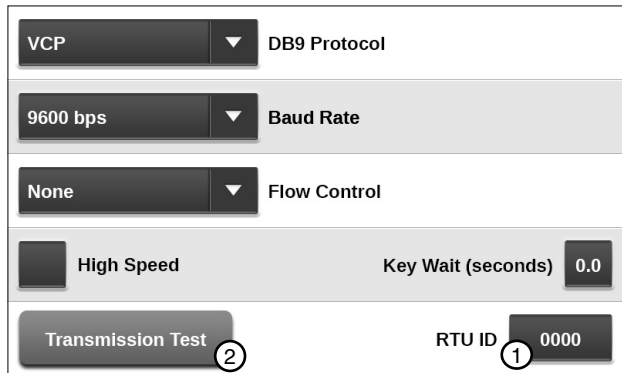

Figure 46-1 DB9 Comm Port Screen
The Transmission Test button sends a transmission test notice event message through an optional communication device, such as a radio or phone modem, to another control panel or BaseStation equipped with a similar communication device. Use the Transmission Test button to test communications after installation. There is a random 0 to 10 second delay prior to the transmission of data. Refer to Figure 46-1.
1. Select the **RTU ID** field. Refer to Figure 46-1.